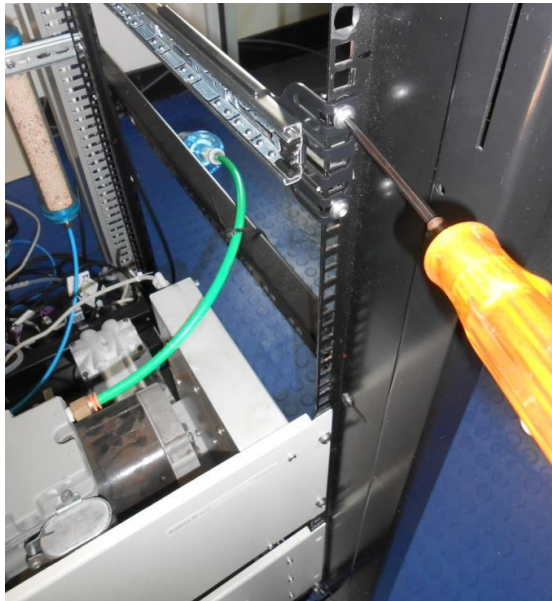

Figure 155 – Attach Slides to Front of Rack
7. Install the two assembled outer slide rails onto the left and right side of the rack securely with M6 bolts; washer and locknuts/cage nuts (refer to Figure 155).